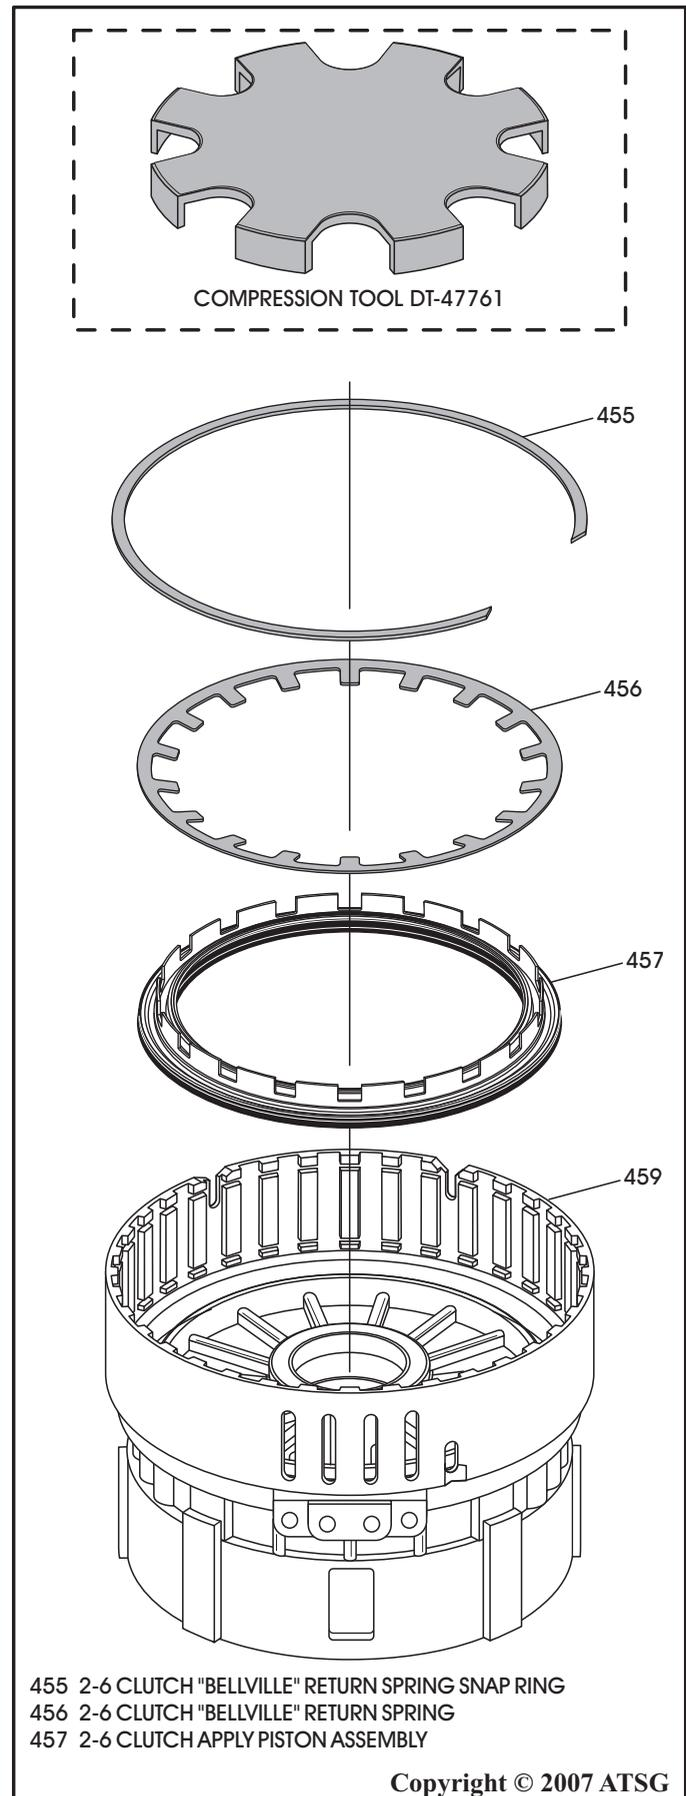

Figure 108
5. Place the center support on a flat work surface with the front side facing up (See Figure 108).
6. Lubricate the seal surfaces of a new 2-6 clutch piston and install piston into the center support, as shown in Figure 108.
7. Install the 2-6 clutch piston "bellville" return spring onto the piston with the tabs facing down, as shown in Figure 108, and that the tabs fit between the stands on the piston.
8. Using the compression tool DT-47761 shown in Figure 108, compress the return spring and install the snap ring.